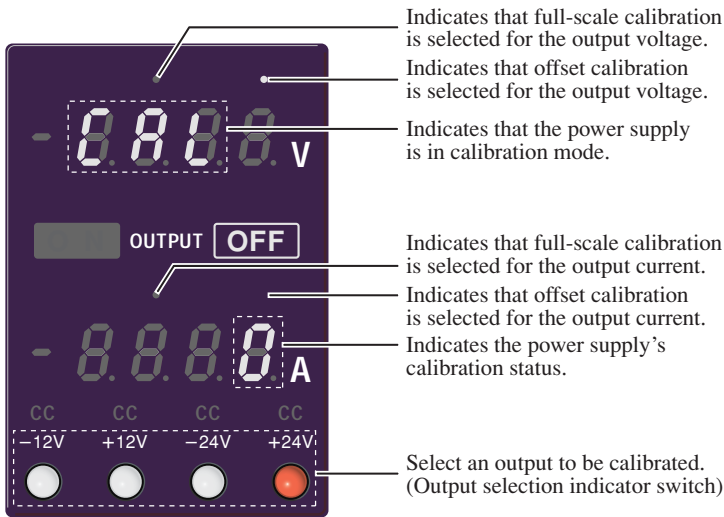

Fig. 6-1 Panel display for calibration modes
7. Using the VOLTAGE switch, select the output voltage offset calibration. (Fig. 6-1)
12. Using the VOLTAGE switch, select output voltage in full scale calibration. (Fig. 6-1)
11. Using the CURRENT switch, select output current offset calibration. (Fig. 6-1)
16. Using the CURRENT switch, select output current in full scale calibration. (Fig. 6-1)